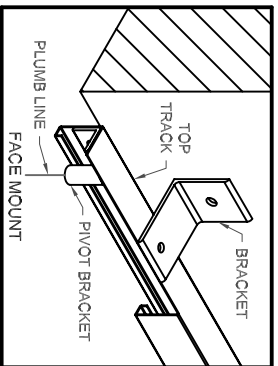

FIG. 2
2. FOR FACE MOUNT: (FIG. 2)
3. DROP PLUMB LINE FROM CENTER OF PIVOT BRACKET & MARK FLOOR & DRILL 5/8" HOLE 2" DEEP (FIG. 2 & FIG. 3)